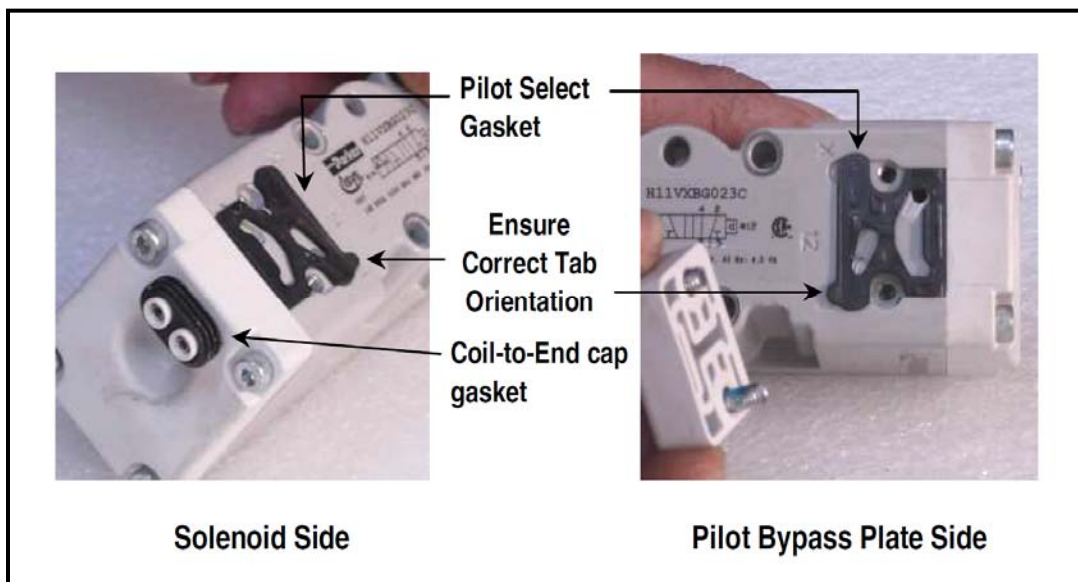

Figure 17: Two Pilot Select Gaskets - Orientation
- b. Remove old gasket, taking note of orientation, and replace with new one. Ensure that new gasket is positioned properly. The tab on the gasket should be pointing to the etched "I," towards the bottom (Figure 17).